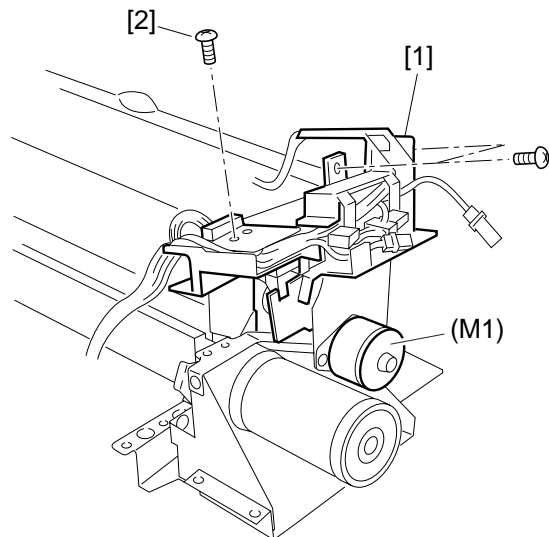

Figure 3-202
- 1) Remove the harness guide. (See Figure 3-202.)